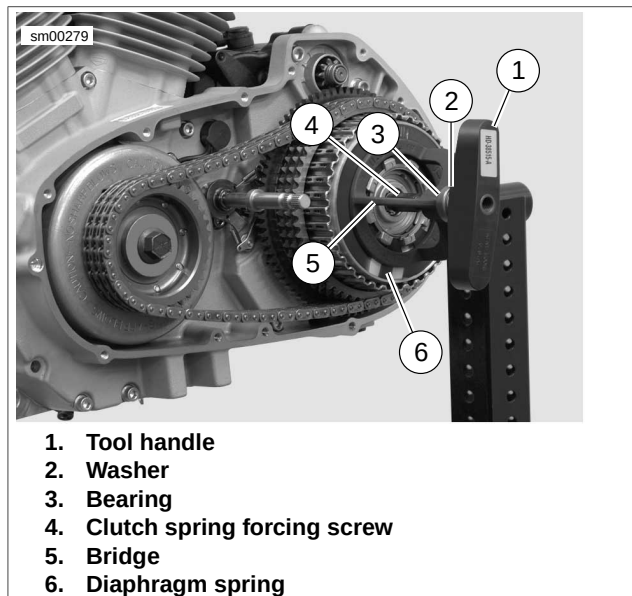

Figure 6-13. Compressing Clutch Diaphragm Spring
4. See Figure 6-13. Attach tools to compress clutch diaphragm spring.
- a. Thread the CLUTCH SPRING FORCING SCREW (Part No. HD-38515-91) (4) onto the clutch adjusting screw.
- b. Place the bridge (5) of SPRING COMPRESSING TOOL (Part No. HD-38515-A) against diaphragm spring (6).
- c. Install bearing (3) and washer (2).
- d. Thread the tool handle (1) onto end of forcing screw.